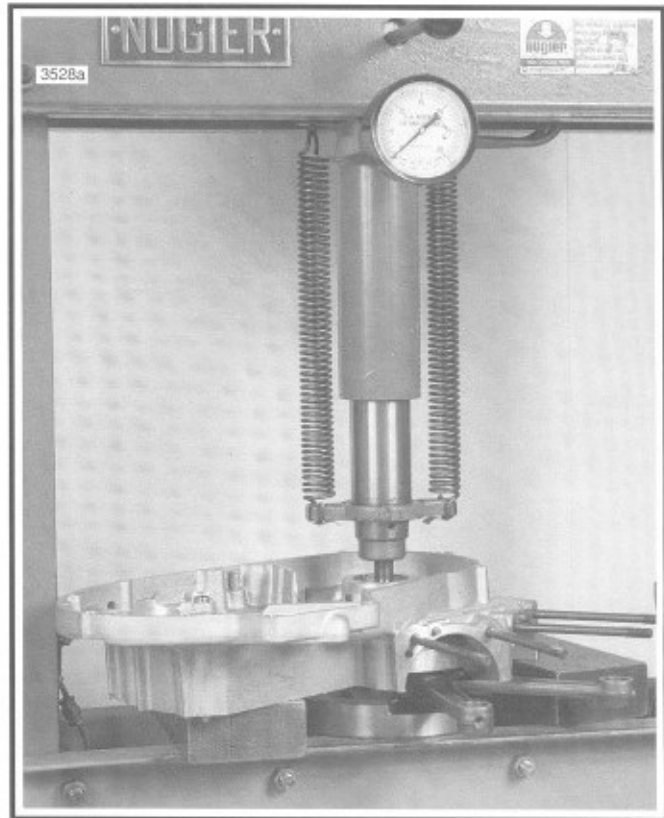

Figure 3-75. Pressing Flywheel from Crankcase
4. Rotate and push on sprocket shaft while reading dial indicator. Then rotate and pull on sprocket shaft while reading dial indicator. If difference (end play) in indicator readings is not 0.001-0.005 in. (0.025-0.13 mm), bearing inner spacer (shim) (item 6, Figure 3-75) must be replaced. Choose spacer from following table. Use a thinner spacer for less end play; use a thicker spacer for more end play.
9. See Figure 3-75. Mount the left case half and flywheel assembly on a press table, supporting crankcase on parallel bars. Press on end of sprocket shaft with arbor press until flywheel assembly is free from case half. Do not drive flywheel assembly from case half as flywheels may be knocked out of alignment.